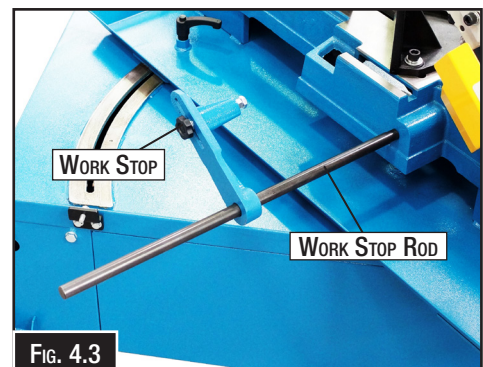

FIG. 4.3
1. Thread work stop rod onto base (see Fig. 4.3).
2. Slide work stop onto the rod, position it as necessary, then tighten set screw. (Fig. 4.3)